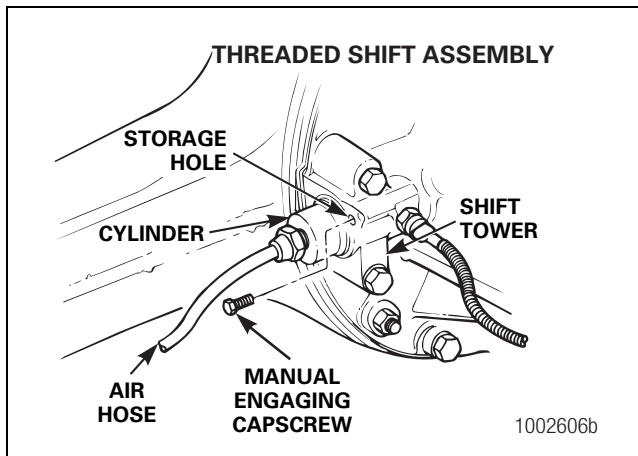

Figure 11.2
10. Disconnect the air hose from the shift cylinder. Figure 11.2.
11. Remove the manual engaging cap screw from the storage hole. The storage hole of threaded shift assemblies is located in the shift tower of the carrier, next to the cylinder. Figure 11.2.
- 9. Install the manual engaging capscrew into the storage hole. The storage hole of threaded shift assemblies is located in the shift tower of the carrier next to the cylinder. Tighten the capscrew to 15-25 lb-ft (20-35 N•m). Figure 11.2.